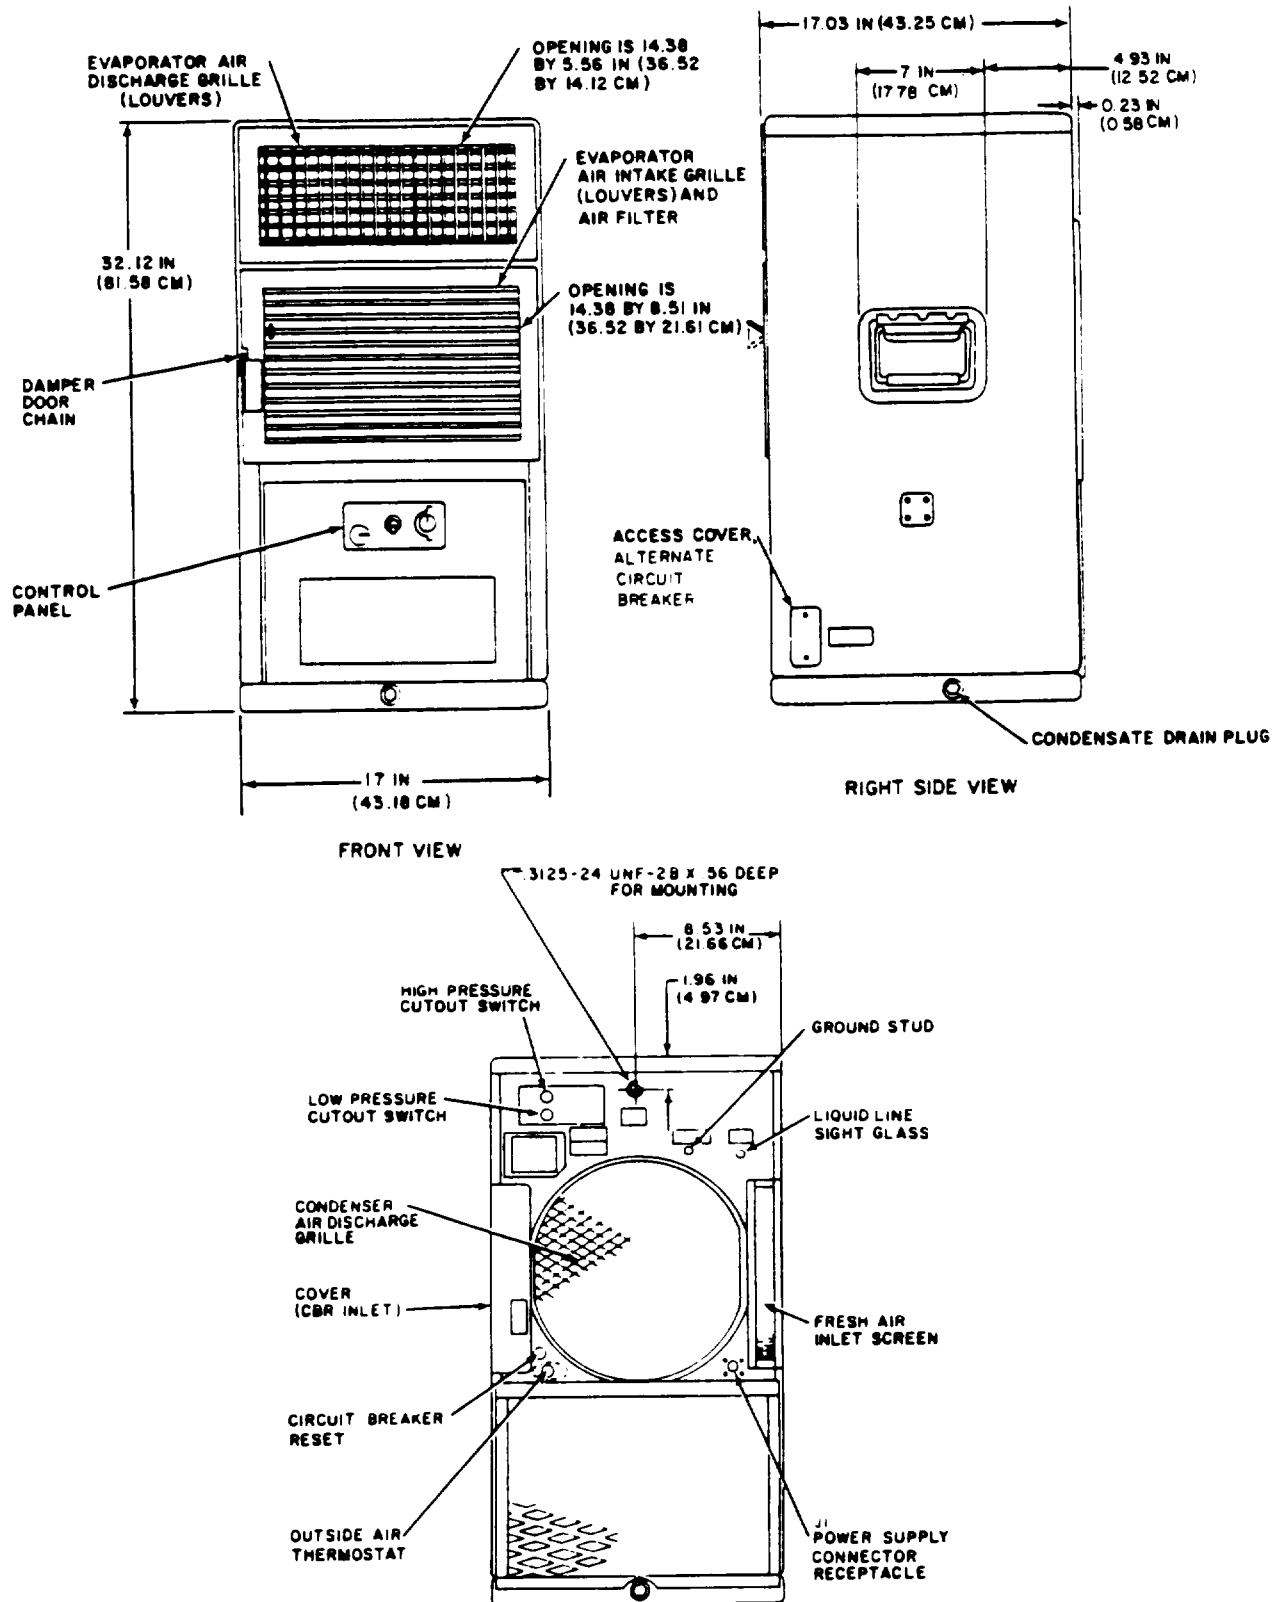

Figure 4-1. Installation Dimensions.
- (1) See Figures 4-1 and 4-2 for dimensions and location of mounting hardware.
(7) Connect #10 AWG ground wire from the shelter ground to air conditioner ground stud. The ground connection is located above and to the right of the condenser fan guard. Refer to Figure 4-1.
(8) Drain line. Remove one of four condensate drain plugs located at the lower edge of the unit-one per side. See Figure 4-1.
(9) Connect mating power supply connector to J1.